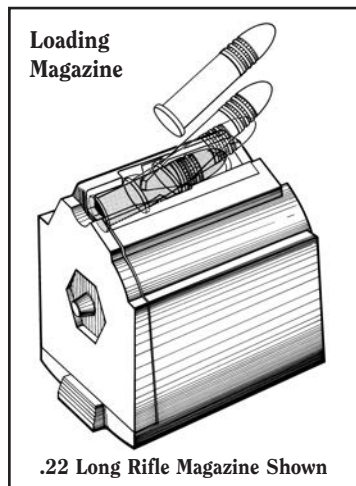

Figure 7.
8. Load the magazine with the appropriate number of cartridges (see Fig. 7, p. 14).